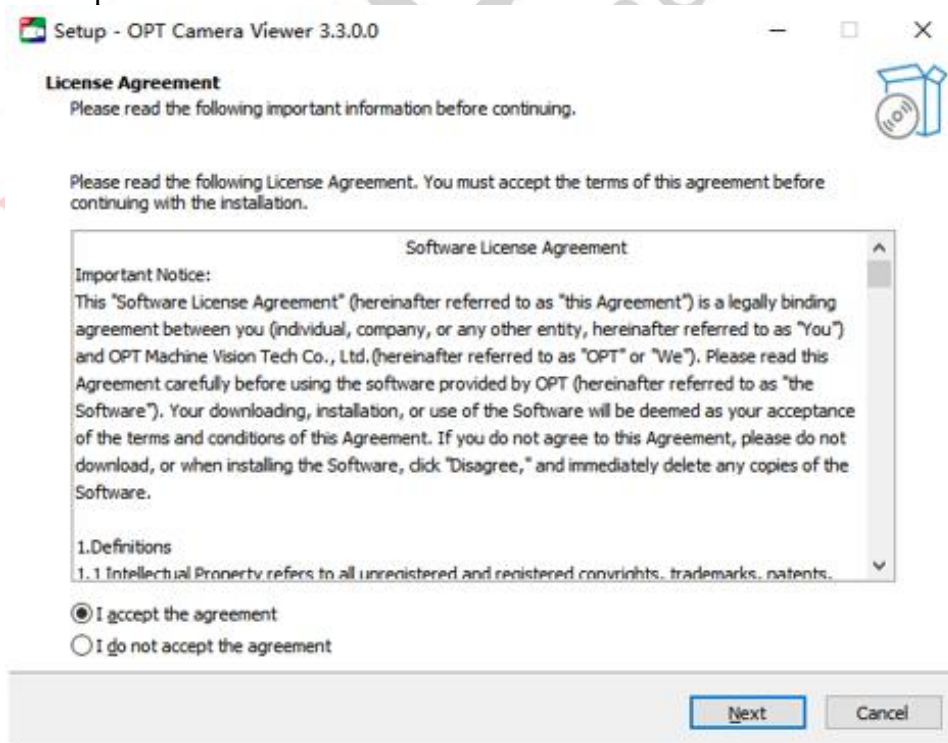

Figure 3-3 Ready to install window
4. After the uninstallation is completed, directly enter the installation process, and the license agreement window as shown in Figure 3-3 will pop up. After carefully reading the license agreement, confirm that you agree to the license terms, and then click the Next button to continue the installation process.